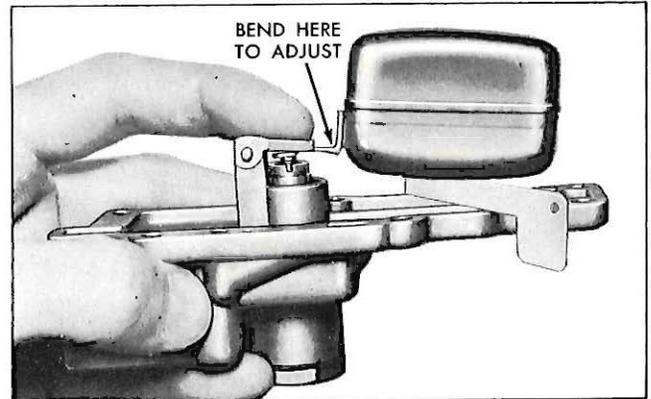

Fig. 8—Adjusting Float Level
3. Invert cover and measure the distance between cover gasket surface and float at center of float (fig. 8). This FLOAT LEVEL dimension should be $\frac{5}{8}$ " or use Tool J-21056.
4. Adjust, if necessary, by bending float arm as shown in Figure 8.